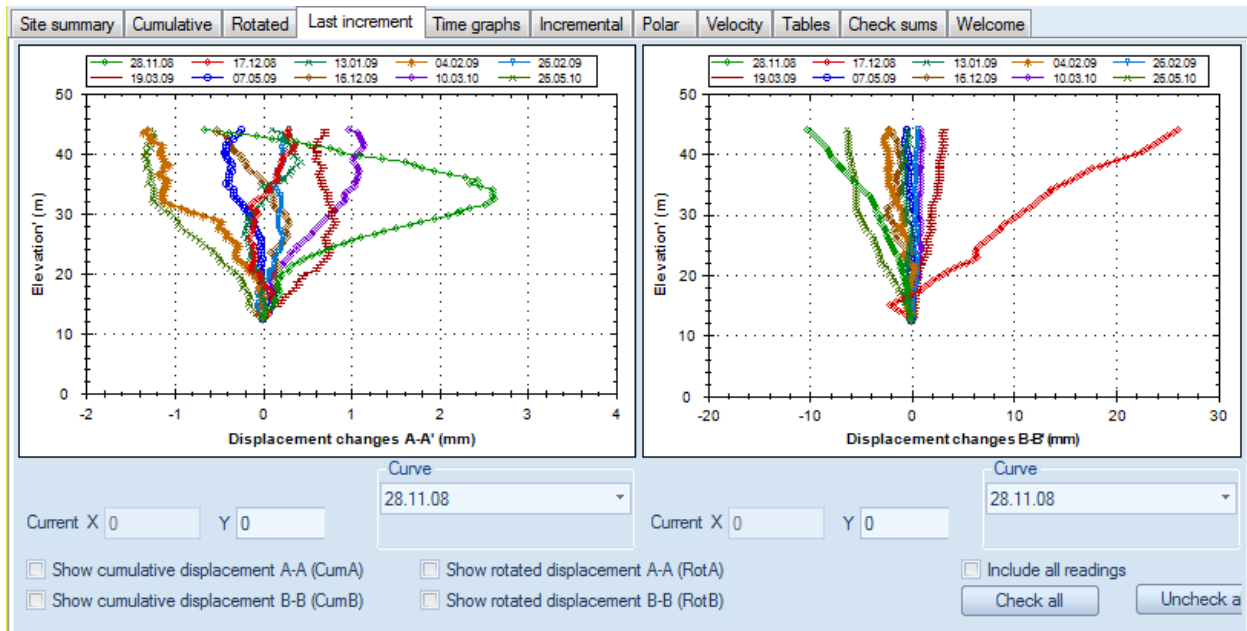

Figure 7.7: Last increment vs. elevation for each selected reading
- **Last increment tab:** These are the displacement changes from the last valid reading (Fig. 7.7)